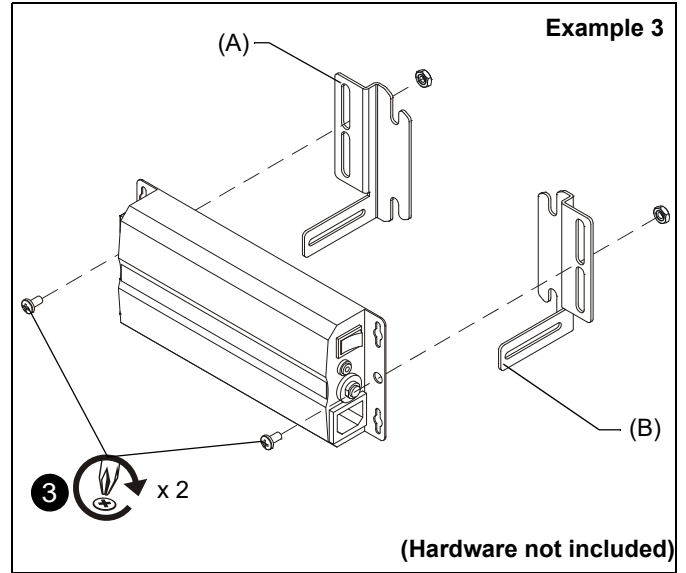

Figure 2
3. **OPTIONAL:** Attach component directly to end brackets (A, B) using screws and nuts (not included). (See Figure 2)